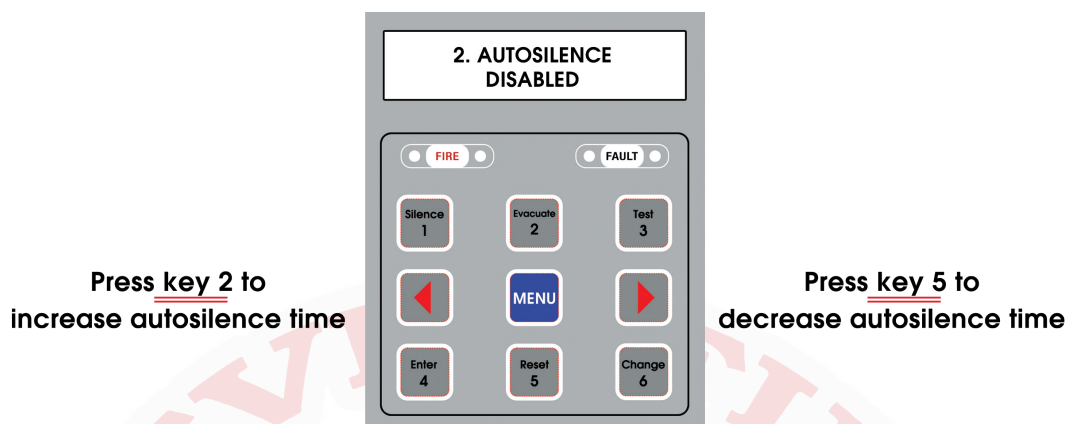

Fig.36 Autosilence Time Control
- ✿ To increase or decrease autosilence time , the user will press 2 or 5 keys as in (Fig.36).